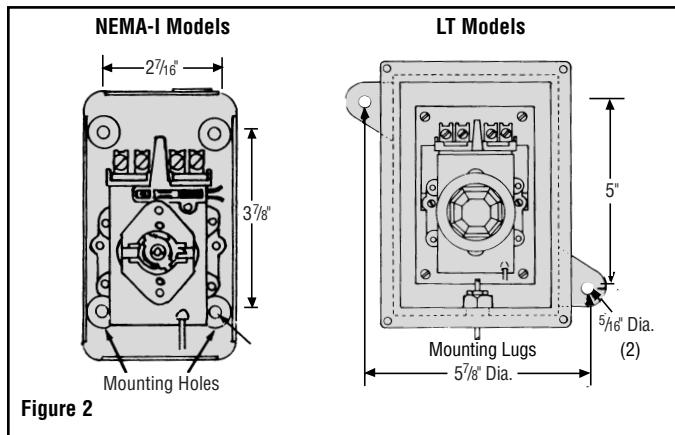

Figure 2
2. Use sheet metal or wood screws through the mounting holes in baseplate to mount control. (See Figure 2)